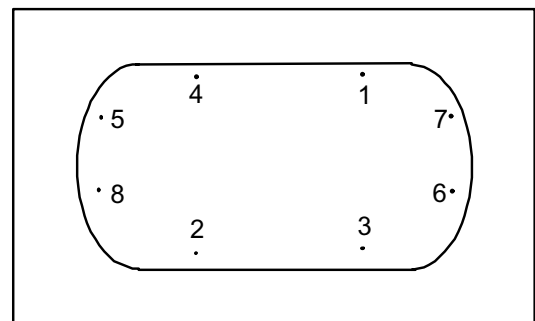

Figure 1
- (o) Finally, tighten the screws in the sequence as shown in figure 1.